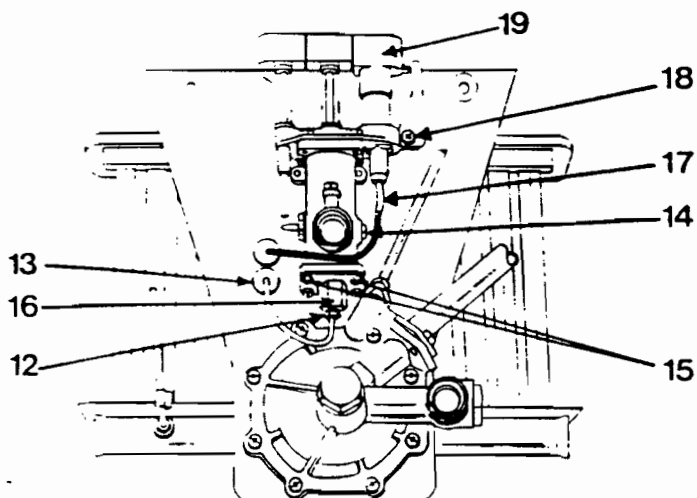

FIG. 4
Remove controls assembly (see section 2). Viewing the controls tray from the bottom, release thermocouple securing nut at (12) Fig. 4.
To remove electro magnet unit remove single screw at (14) Fig. 4 and fixing screws at (15) and carefully pull mag unit (16) forwards to clear.
NOTE: To facilitate removal of screws (15) the FFD assy (push button unit) may be removed by pulling the electrode lead from spark generator at (17) Fig. 4. removing the pilot injector (see section 8) and releasing the gas feed pipe union connection and the three securing screws securing the FFD assy (push button unit) to the controls tray.
Viewing the controls tray from the bottom, pull electrode lead from spark generator at (17) Fig. 4.